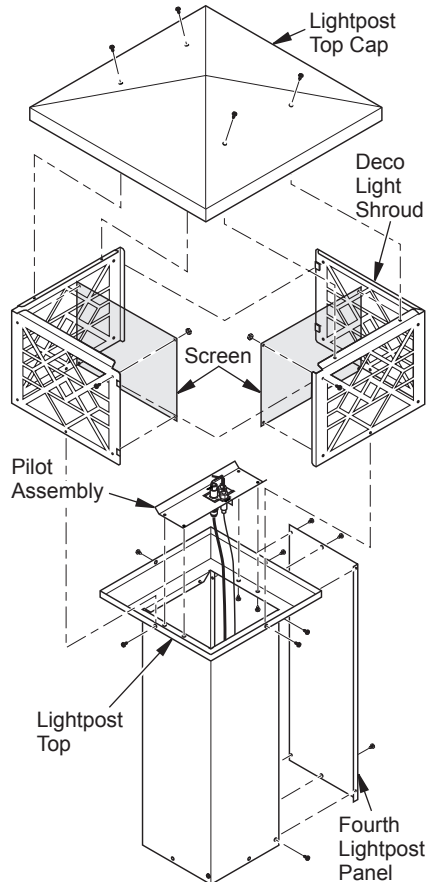

Figure 7 - Attaching Pilot and Shroud
5. Place pilot assembly on top of lightpost top as shown in Figure 7. Attach with 4 screws (H). Check wire connections before proceeding.
6. Attach 4 light shroud screens to light shrouds with 4 screws (F) and 4 nuts (G) each as shown in Figure 7. Only 2 of the 4 screens are shown.
7. Place deco light shrouds on top of lightpost top (see Figure 7). Make sure flanges are on top. Slide shroud tabs together. Attach to lightpost top with 4 screws (H) through holes in bottom of shroud pieces (see Figure 7). Tighten all screws.
8. Attach lightpost top cap to shroud assembly with 4 screws (H) as shown in Figure 7.
7. Attach fourth lightpost panel to assembly with 6 screws (H) as shown in Figure 7, page 6.